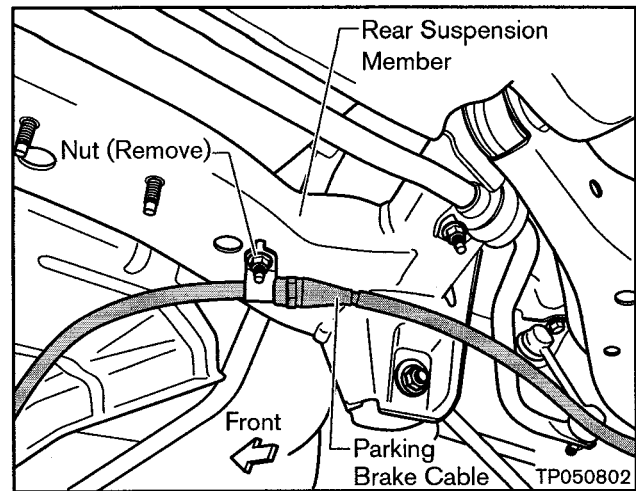

Figure A13
7. Remove the parking brake cables from the rear suspension member (see Figure A13). Let the cables hang down freely.